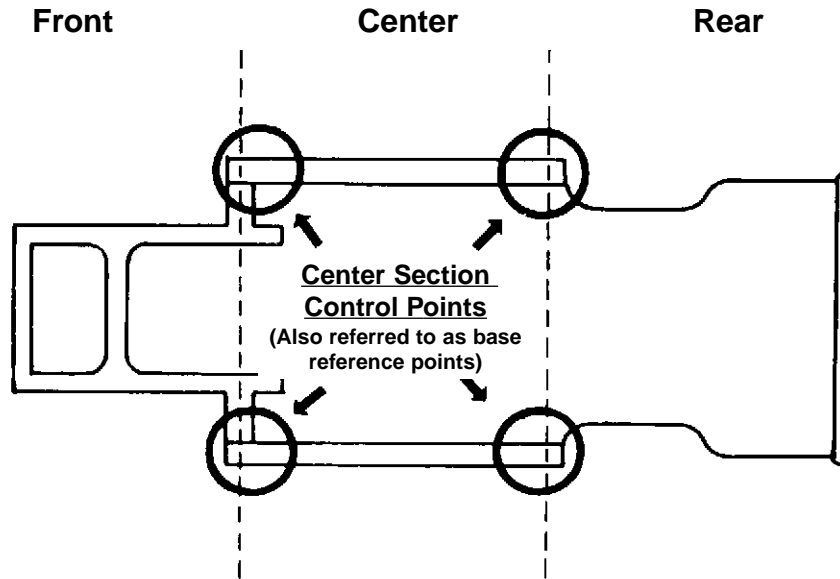

Figure 27
1. Install the UMS Adapter in Anchoring Stand Base and position stand at front of the center section on side of vehicle that must not move with pull (see Figure 27 & 28).